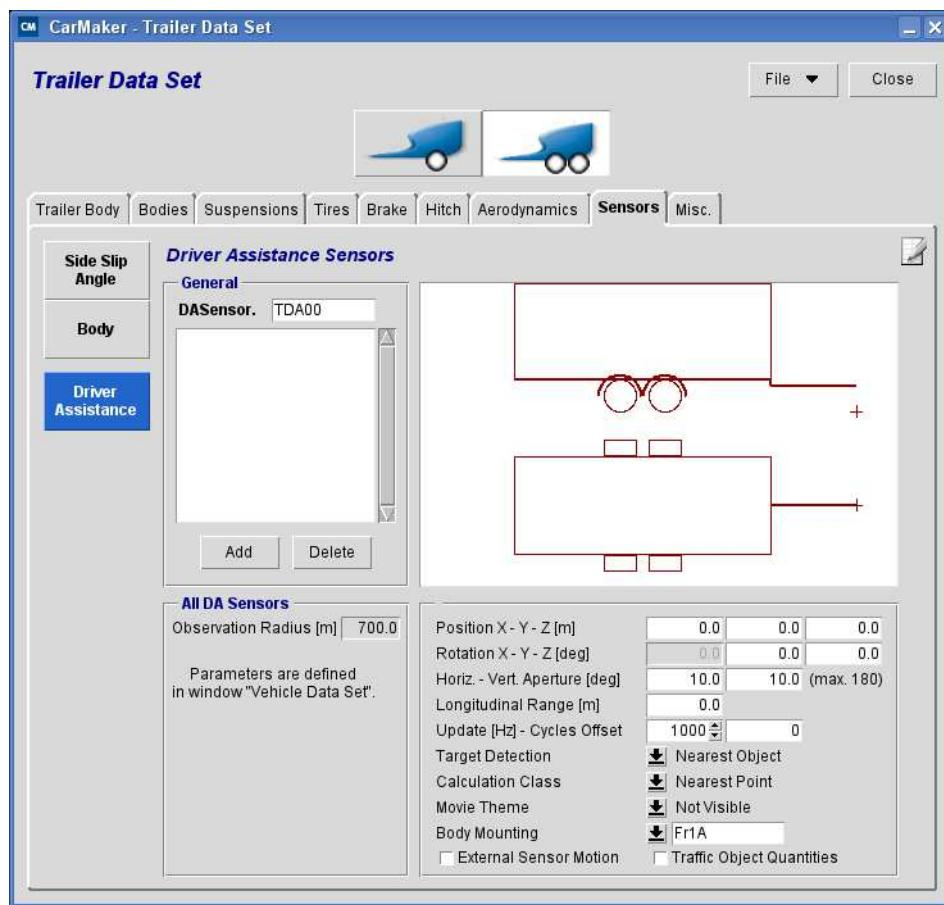

Figure 5.137: Definition of *Driver Assistance Sensors*
**DASensor.** Here you can enter a name for the current sensor, to alleviate the identification of the sensor quantities, e.g. in IPGControl. All User Accessible Quantities of this sensor will start with the prefix *DASensor.Name.\**. In the example in Figure 5.137 the UAQs of this sensor will start with *DASensor.C00.\**.